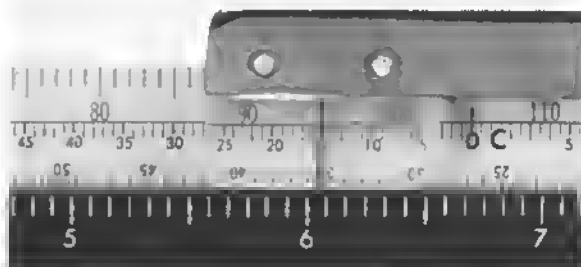

Figure 67
5. Move carriage and align gunsight with 15 to left of "0" on centering scale (Figure 67). Graduations to left of "0" are half measurements of those to right of "0". Therefore, the scale divides the space required for the copy in half so it will be centered over the "0" or center point. No mental calculations are involved, it is simply blind typing copy, reading the scale and matching numbers. It is important that the copy be blind typed exactly as it will be composed or it will not be centered correctly.